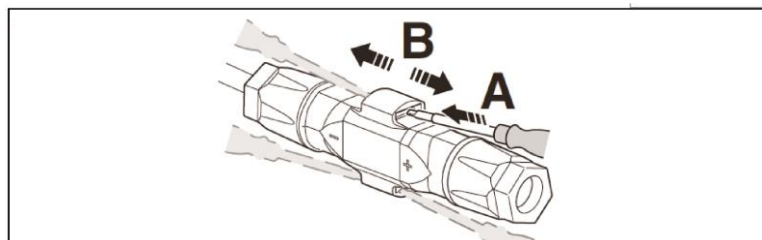

Figure 5-17
(1) Insert the screwdriver into one of the four openings (Figure 5-17, A).
(2) Leave the screwdriver in the opening. Pull the two connectors apart (Figure 5-17, B).